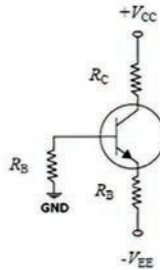

Figure 5.28 Ch 5: No.10, self-test
10. Determine the Q-point for the circuit shown in Figure 5.28, if $R_B = 60 \text{ k}\Omega$, $R_C = 550 \text{ }\Omega$, $R_E = 1.5 \text{ k}\Omega$, $V_{CC} = 15 \text{ V}$, $V_{EE} = -15 \text{ V}$, β_{DC} is 150. (Assuming a silicon BJT)